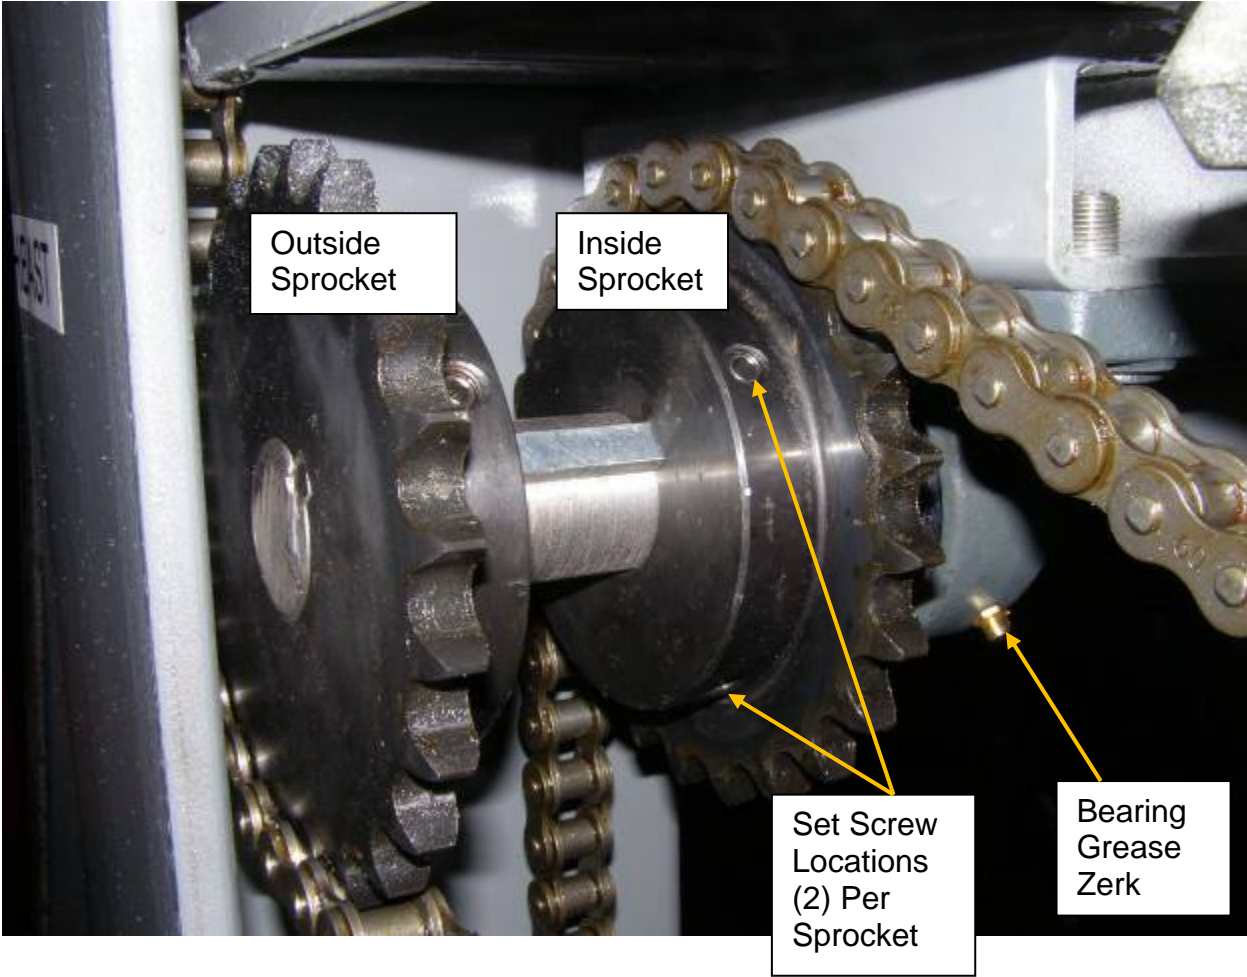

Figure 25 Adjusting Sprocket Location
- To adjust proximity of the chains with relation to the cylinder, the sprocket must be moved by loosening the set screws and tapping it over on the keyed shaft (see **Figure 25**). Tighten set screw when finished.